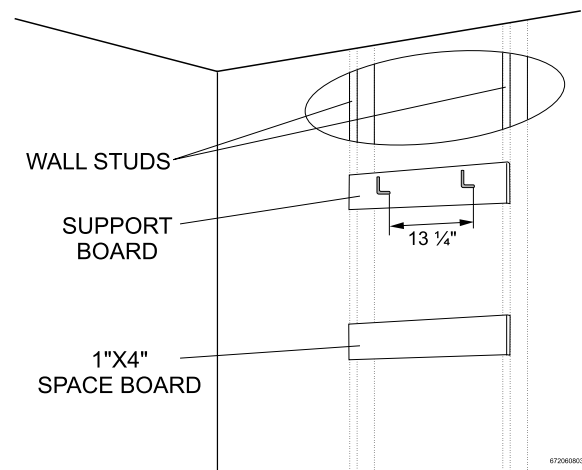

Fig. 7 Support board
The heater must be mounted on a wall using appropriate anchoring materials. If wall is a stud wall sheathed with plasterboard, it is recommended that support board(s), either 1x4's or 1/2" (minimum) plywood first be attached across a pair of studs and then the heater should be attached to the support boards. See Fig. 7.
- ▶ Secure the two included L shaped hooks to wall studs or support board 13 1/4" apart (See Fig. 7).